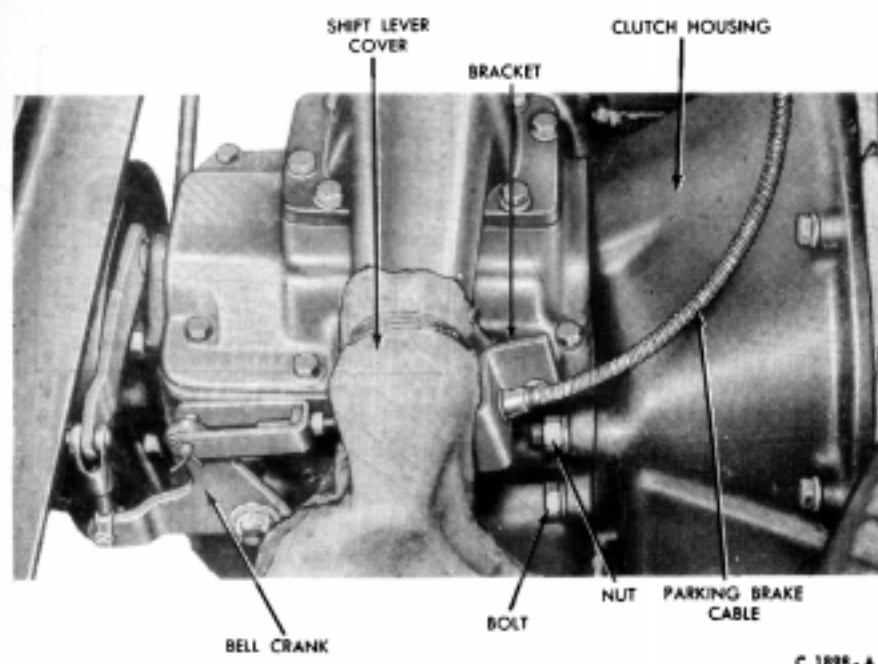

FIG. 3 Transmission Installed—C-Series
7. On C-Series vehicles, remove the two transmission upper mounting nuts at the clutch housing (Fig. 3).